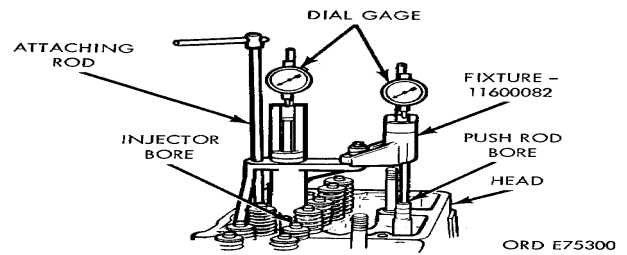

Figure 3-71. Injector push rod timing.
- b. Install injector timing fixture (12, fig. B-28) in injector bore as shown in figure 3-71. Indicator extension must rest in socket of injector push rod. Tighten tool in place with injector mounting capscrews.